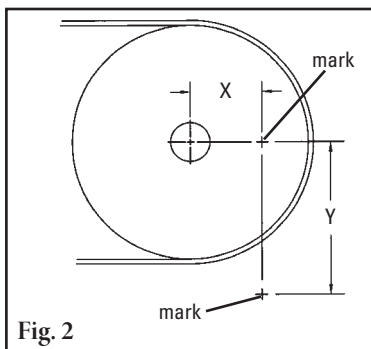

Fig. 2
2. **Lay out the dimensions on the chute wall.** Measure out the X dimension horizontally from the center of the pulley shaft and mark. (NOTE: It may be easier to put a level on top of the pulley shaft, draw a horizontal line and then measure down half the diameter of the shaft and make a line from the front of the shaft. Now subtract half the pulley shaft diameter from the X coordinate and measure on the line and make a mark.) Then measure down vertically the Y dimension and mark. This is the correct position for the center of the cleaner pole (Fig. 2). Lay out and mark the same dimensions on the other side.